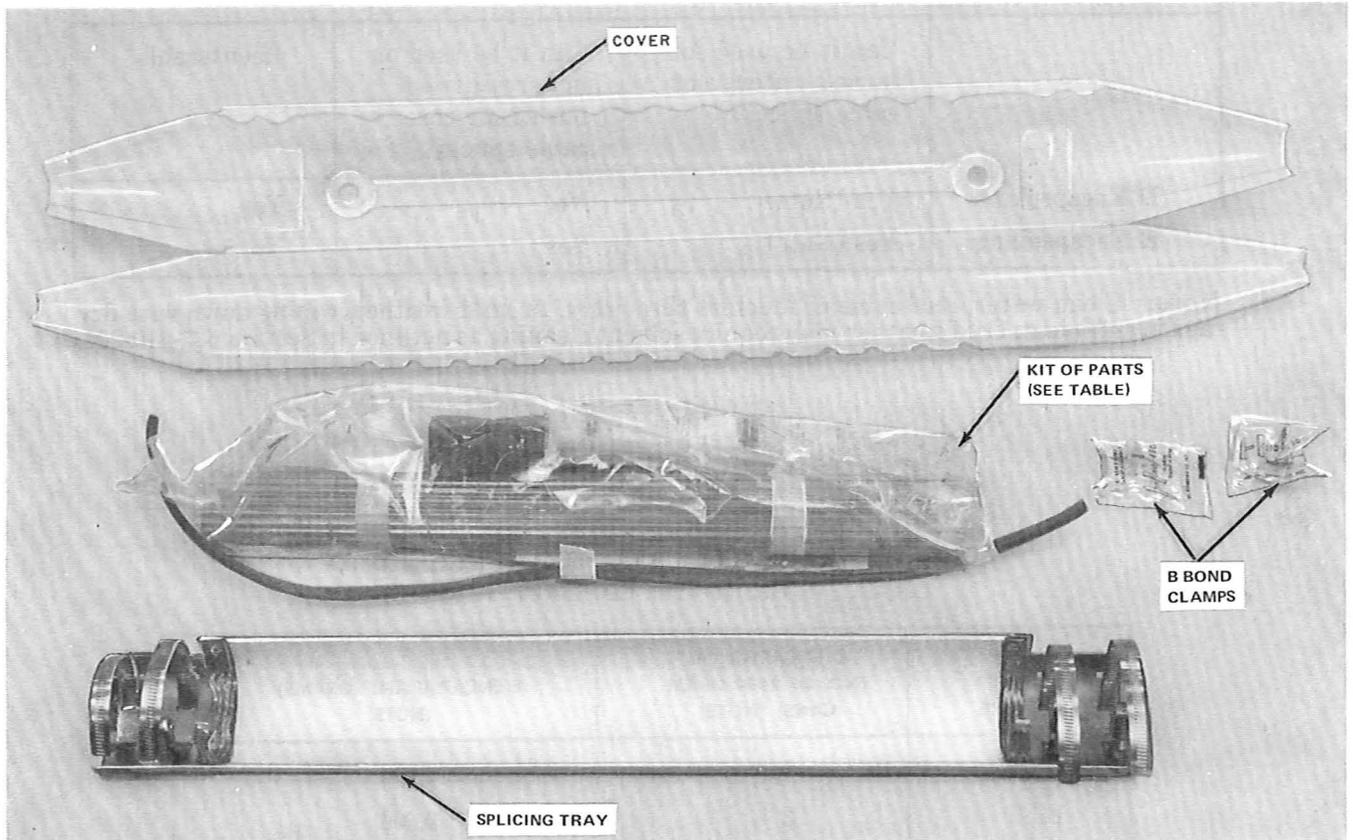

Fig. 1—16-Type Closure
2.01 The 16-type closure is illustrated in Fig. 1.